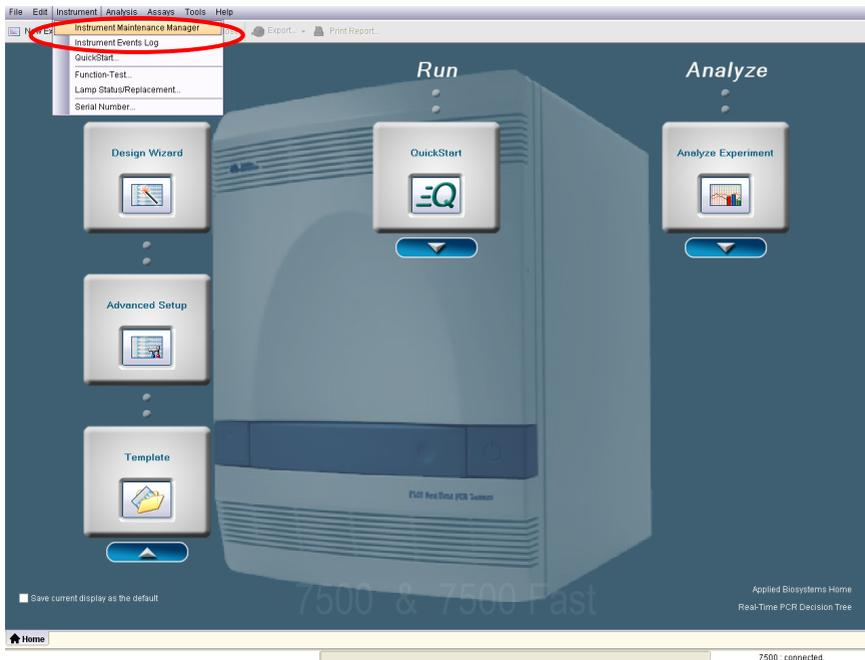

Figure 13. Selecting the Instrument Maintenance Manager.
1. Open the 7500 Software v2.0.6 and select the **Instrument Maintenance Manager** from the instrument menu (Figure 13).